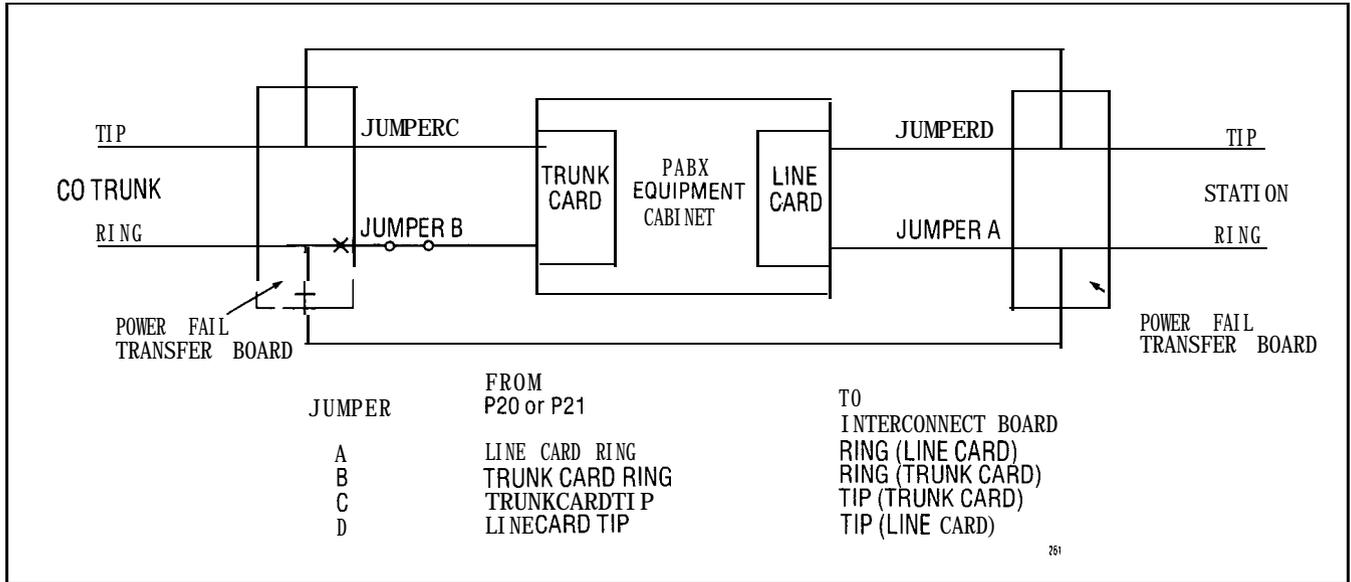
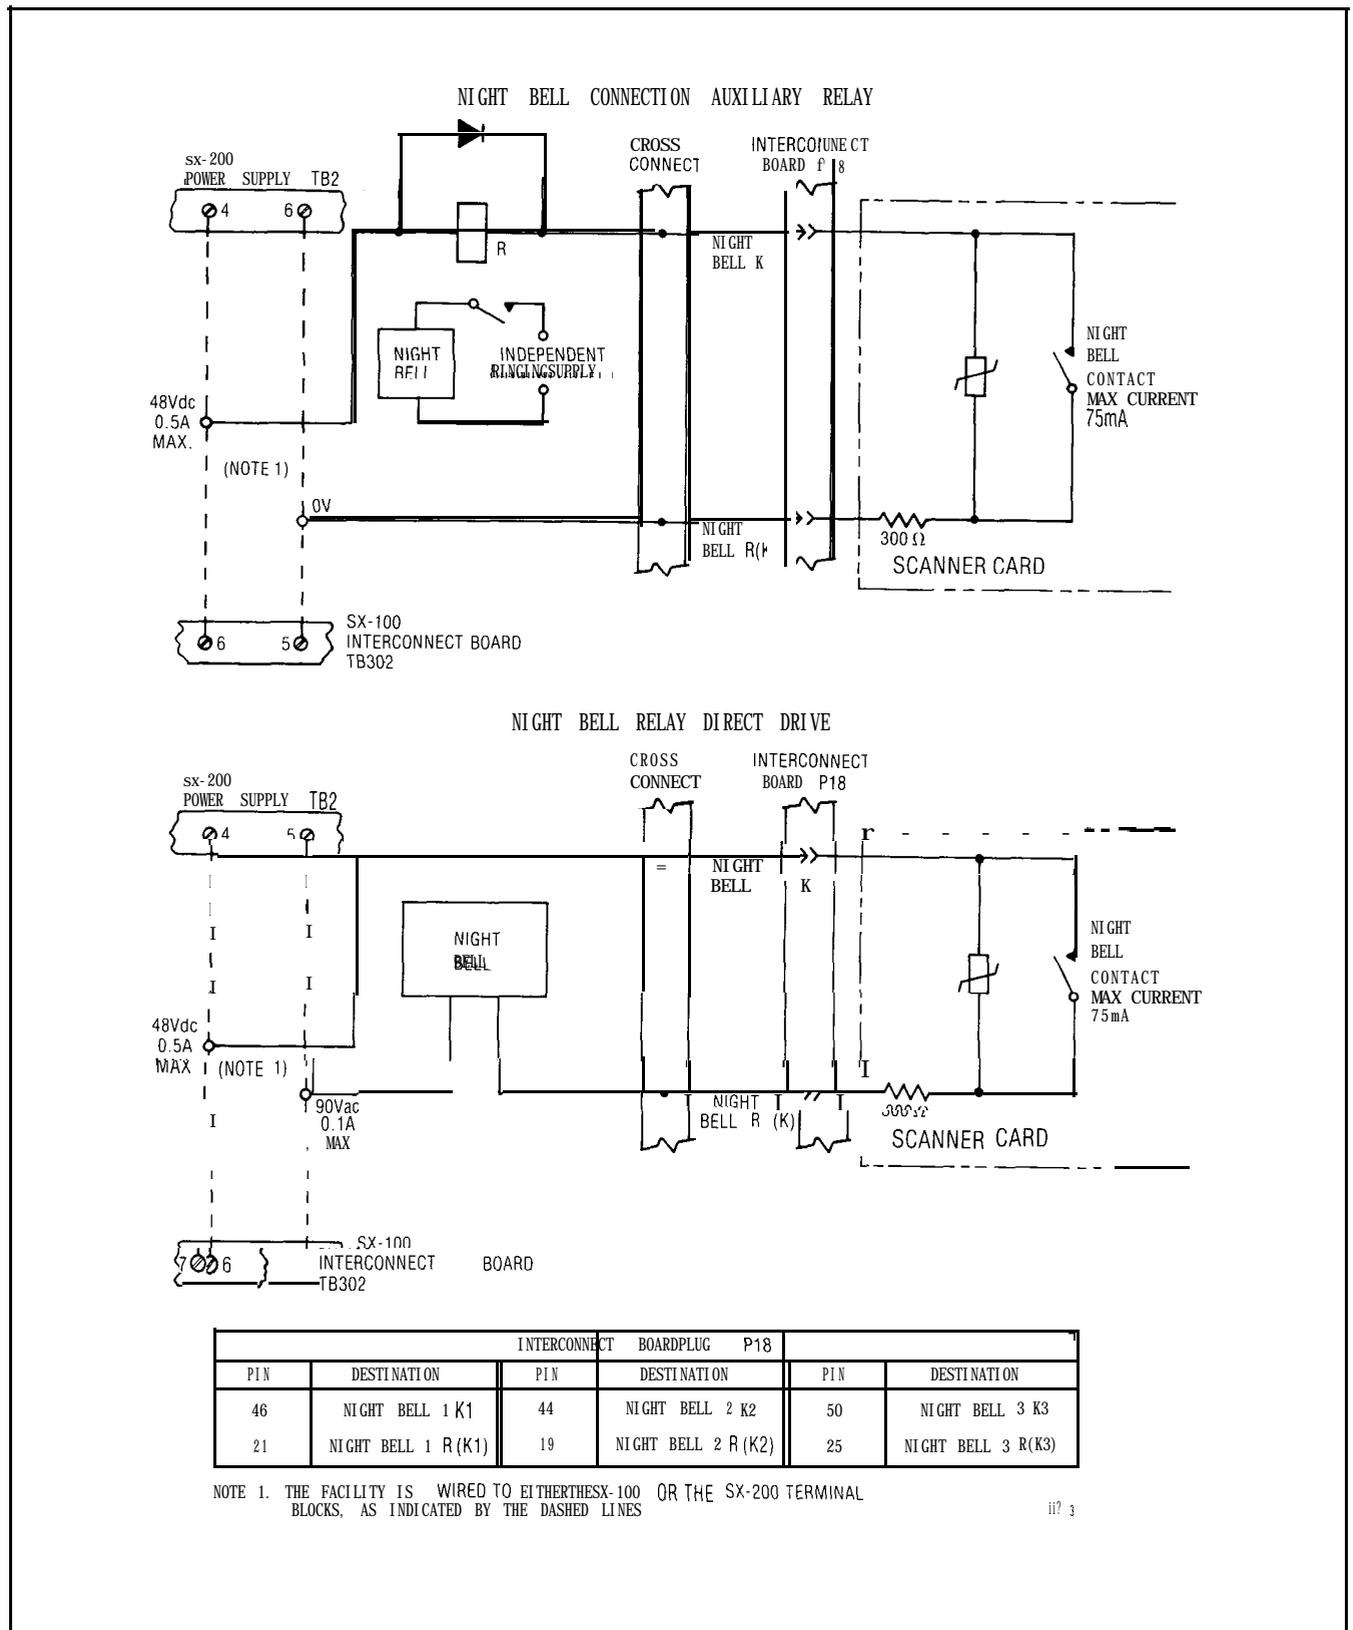
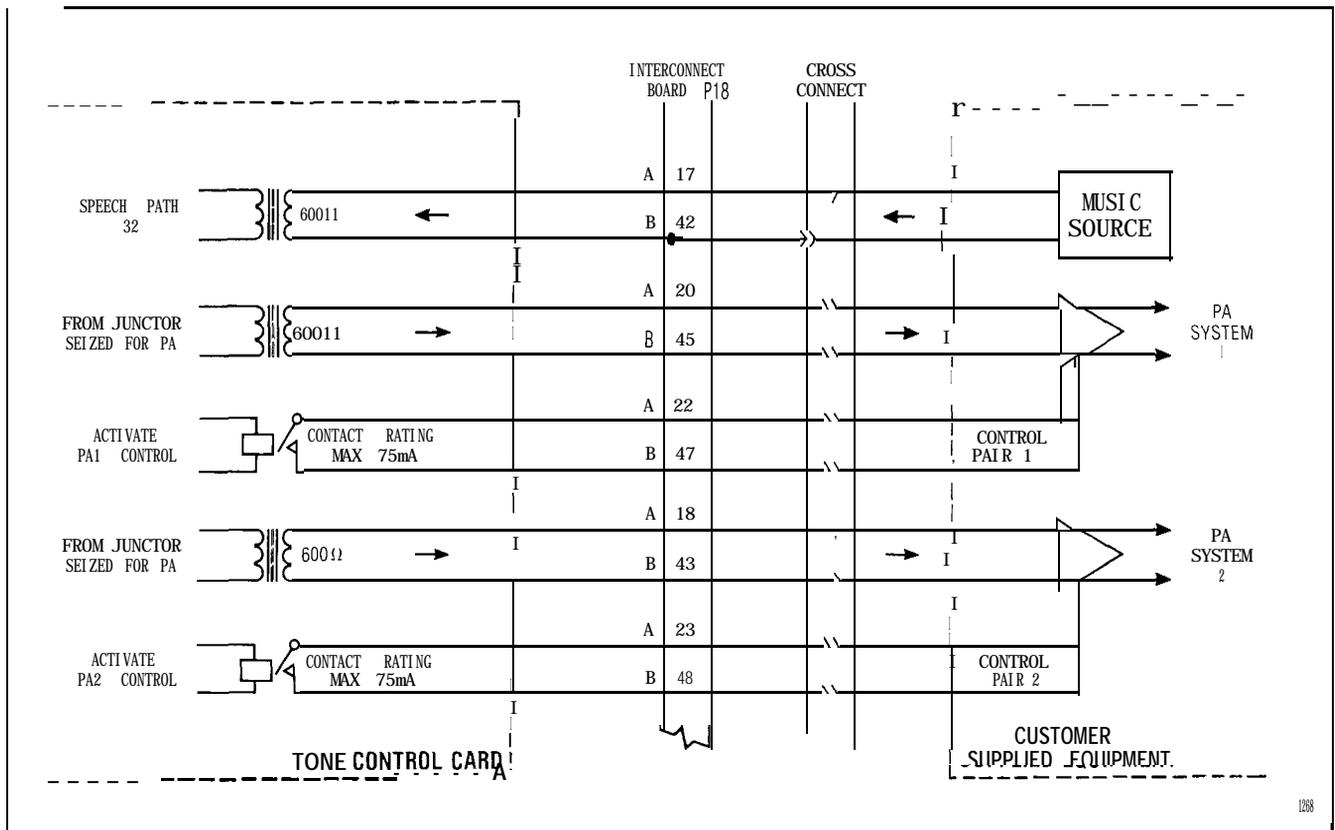

Fig. 10-4 Power Fail Transfer Block Diagram
Fig. 10-6 Night Bell Connections
Fig. 10-7 Music and PA Connections
10.08 Figs. 10-4 and 10-5 illustrate typical block and wiring diagrams for a power fail transfer circuit. Fig. 10-6 illustrates typical night bell wiring connections and Fig. 10-7 shows the connections for music and PA requirements.